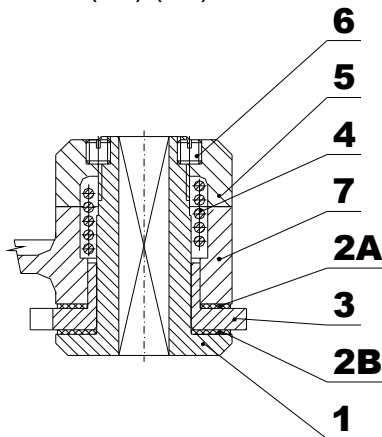

Fig. 6
11.2.1 Brake disassembly (fig. 6)
11.2.2 Brake assembly and adjusting (figures 6 and 7)